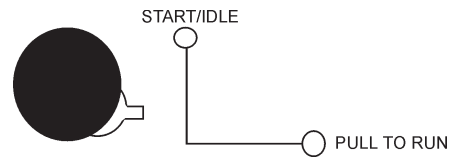

Figure 23. Engine Throttle Lever (HIGH)
- Pull the lever and turn to the right to increase the engine speed. (Figure 23).